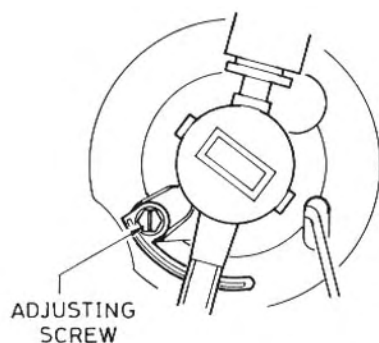

Fig. 3 Tone Arm Height Adjustment
- Maintaining this state, rotate the adjusting screw (Fig. 3) so that distance between stylus tip and disk surface is about 6mm: turn the screw counterclockwise to raise the position of stylus tip, and clockwise to lower it.